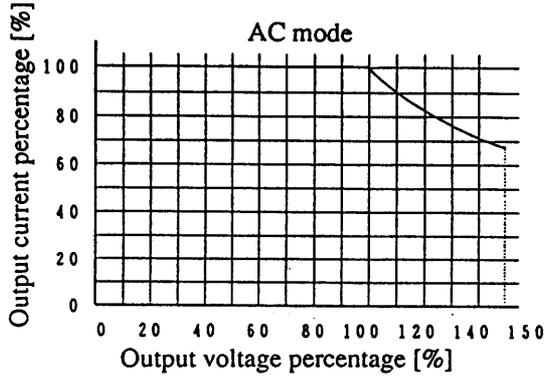

Fig. 1
the output current is reduced by the output voltage. Figs. 1 and 2
- Based on Figs. 1 and 3, the rated output current is the product of both output current percentages shown. Also, the output current percentage in Fig. 4 takes priority if the value obtained based on Fig. 4 is smaller than the product obtained from Figs. 1 and 3. (This applies only in the AC mode.)